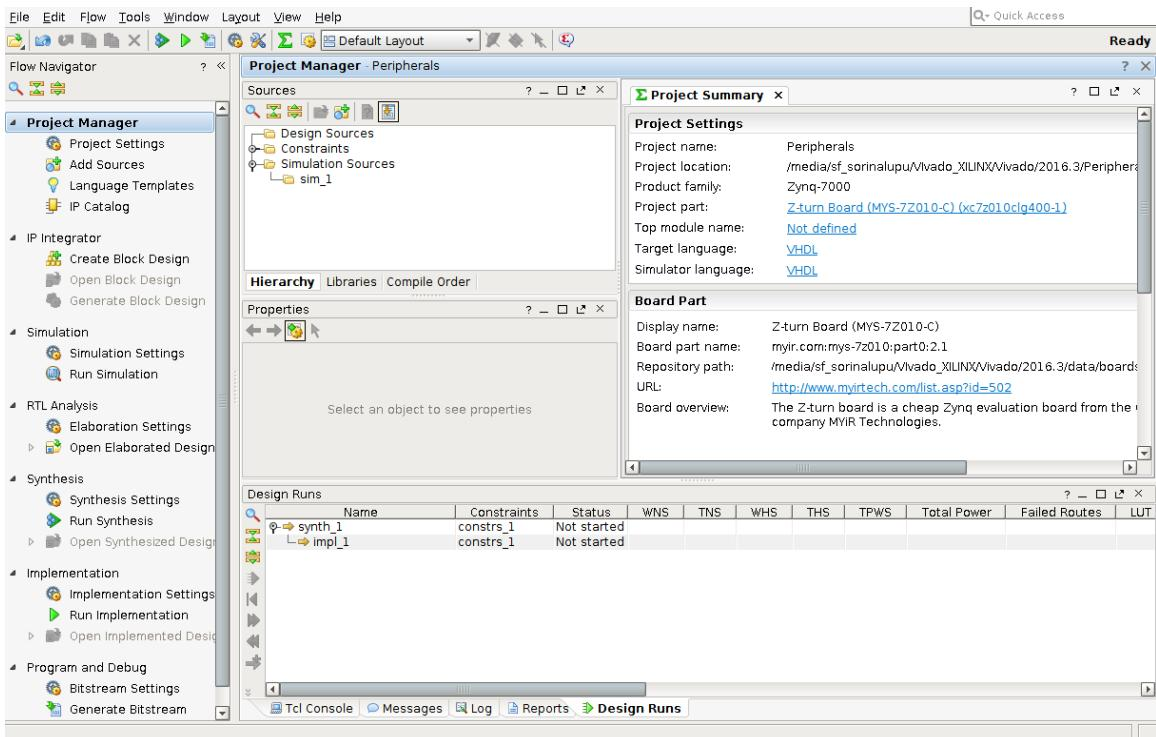

Figure 8: Project Structure
4. Create the Block Design. On the left, in the Flow Navigator window, choose **Create Block Design** and call it **Peripherals**. Press OK, and now the environment should look like in Figure 8. Vivado is based on an IP-centric design flow, in order to rapidly configure the AXI interconnect, AXI Masters and Slaves.